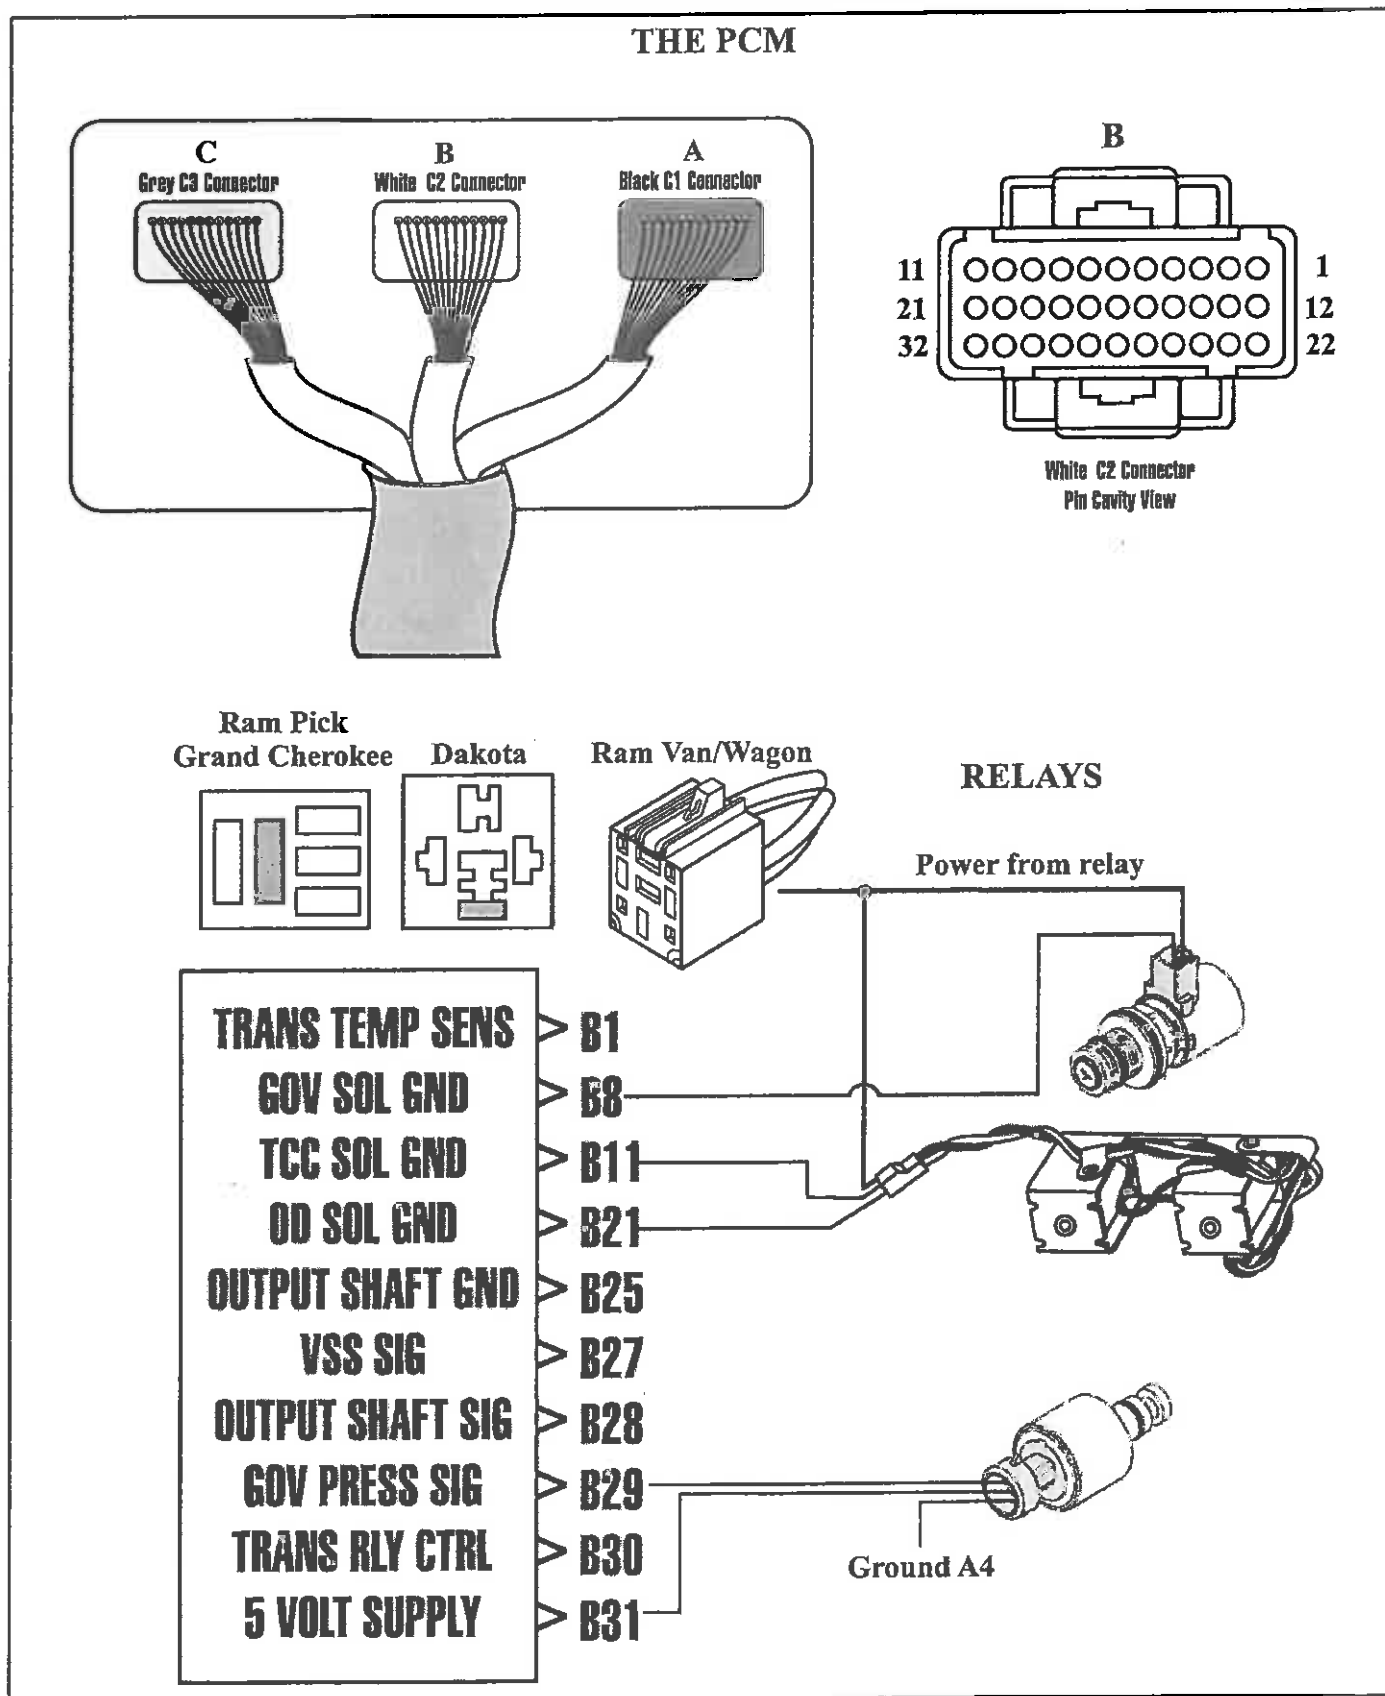
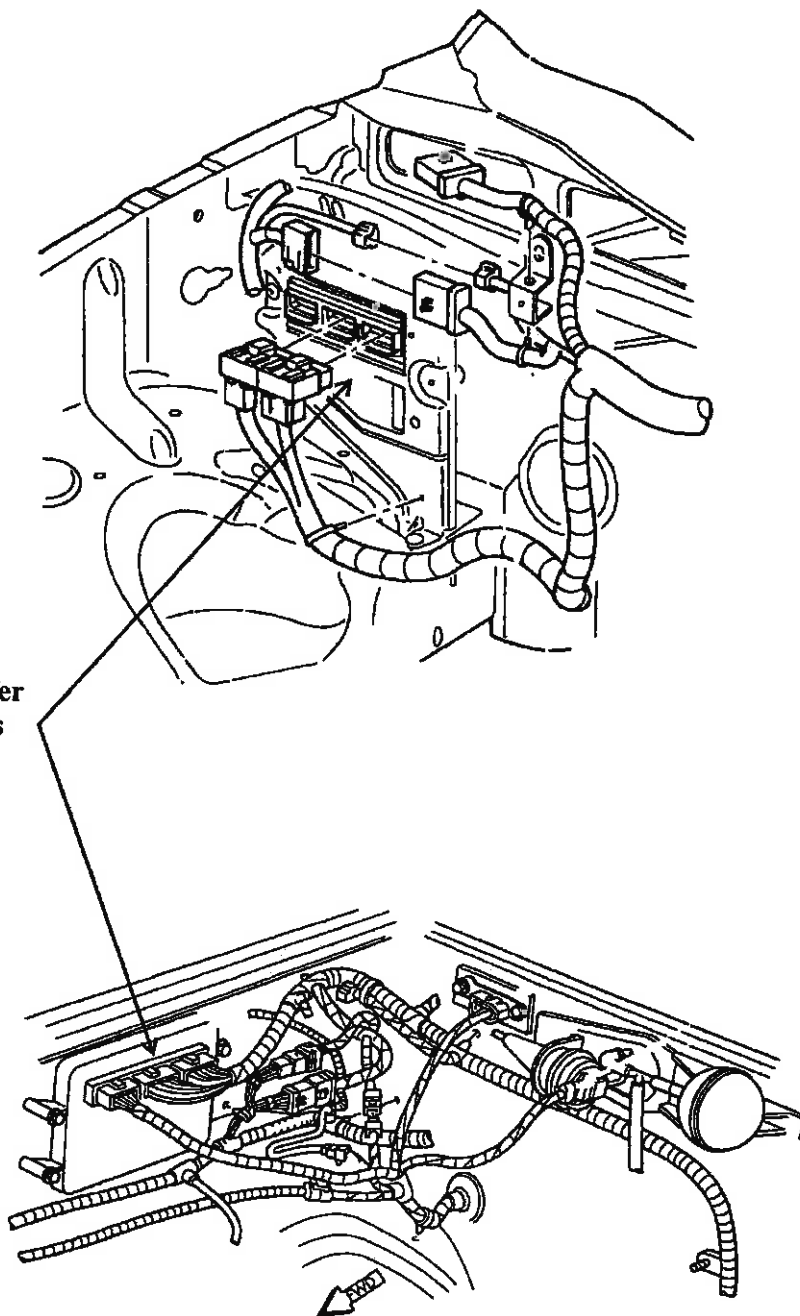
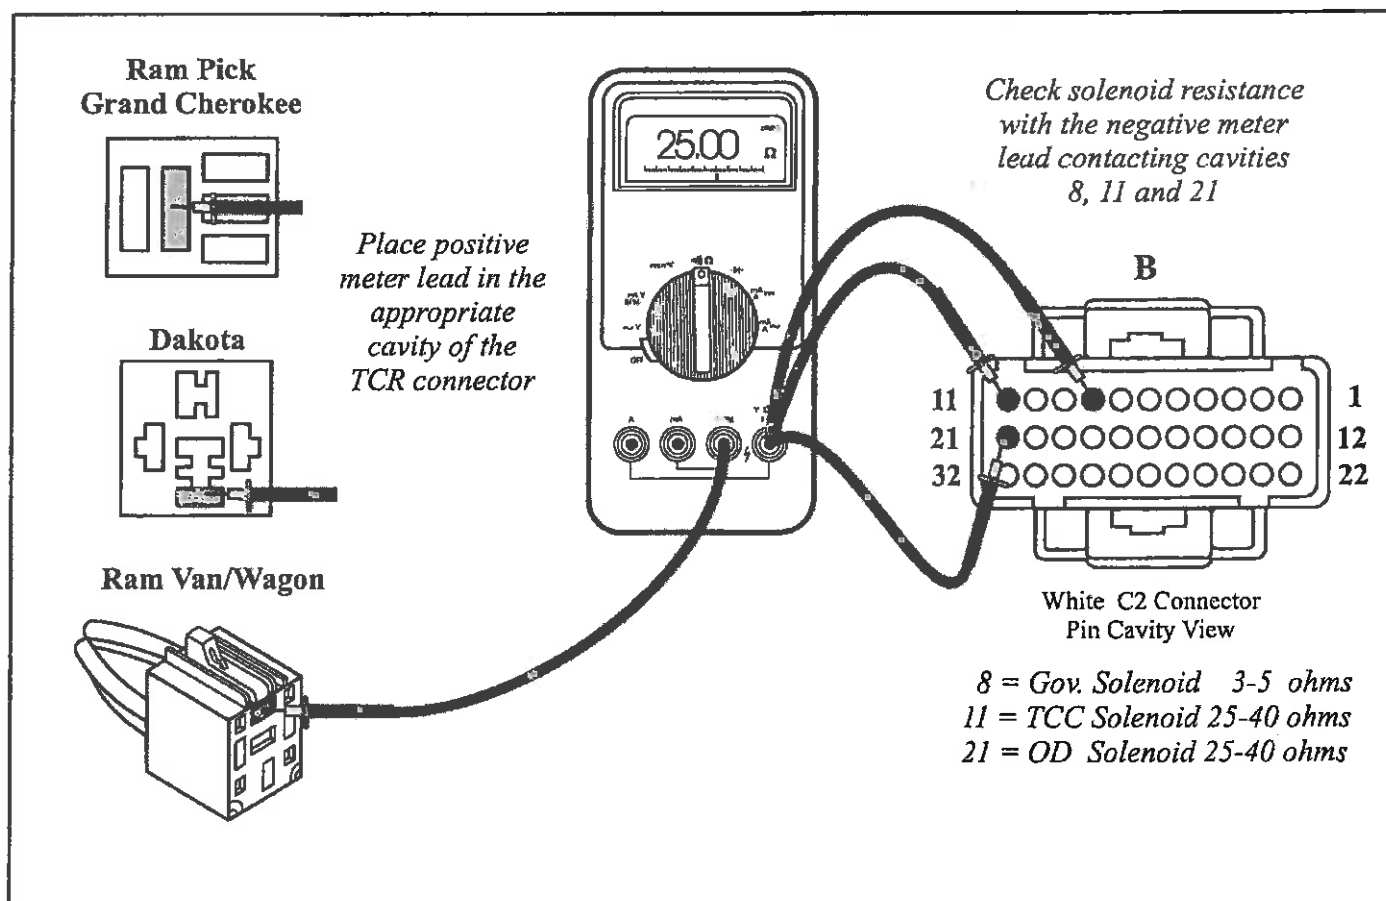

Figure 6
Figure 7
Figure 10
In 1996, a major change took place with the implementation of the Federally Regulated OBD II system. The TCM has been incorporated into the Engine Controller and it is called the "Powertrain Control Module" (PCM) (See Figure 6). This PCM is located in the engine compartment in one or two places as seen in Figure 7.
One very notable difference is that the system voltage supplied to pin 1 at the case connector is no longer directly fed from the computer as with the TCM. Battery or system voltage is now supplied via a Transmission Control Relay (TCR) (See Figures 6 and 8). All relay locations are displayed in Figure 9. The function of the TCR is the same as the EATX relay found in Chrysler's A604 and A606 transaxles in that it cuts voltage to the solenoids after the PCM has determined that a system fault occurred. This action places the transmission into a 3rd gear only default mode.
Although the function of the EATX relay is the same as the TCR, the operation of it is slightly different. The EATX relay is excited by the TCM via a voltage wire from terminal 15. The TCR however is controlled by the PCM via a ground wire from terminal 30 in the white # 2 or B connector as seen in Figures 6 and 8. Cavity identifications are provided for each terminal of the TCR connector in Figure 9. Since the PCM and the TCR are located in the engine compartment, solenoid resistance can be easily performed from their connectors as seen and explained in Figure 10.
1. Locate the PCM as seen in Figure 7.
3. Unplug the Transmission Control Relay and place the positive meter lead of a DVOM set to ohms into the Trans Control Relay Output terminal as seen in Figure 10 below.
4. The PCM has three 32 pin connectors, black, grey and white. Unplug the middle connector which is the white connector. With the negative lead resistance checks on the Torque Converter Clutch, Governor and Overdrive solenoids may be checked at terminals 8, 11 and 21 individually as seen in Figure 10 below. Both the TCC and OD solenoids should measure between 25 and 40 ohms. The Governor Pressure Solenoid should measure between 3 to 5 ohms.